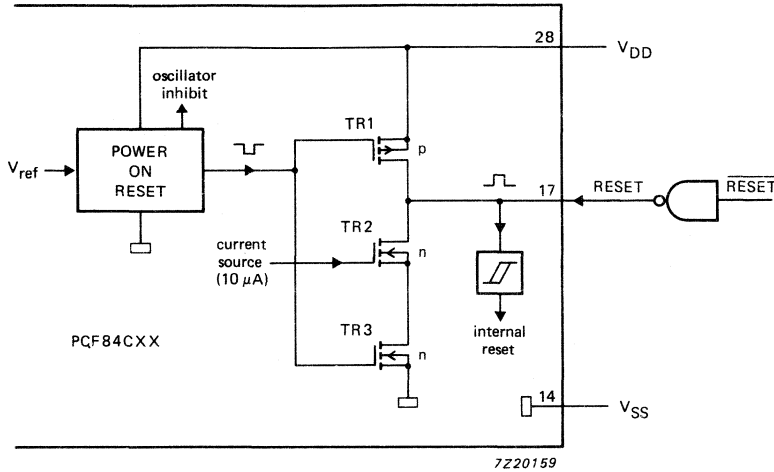
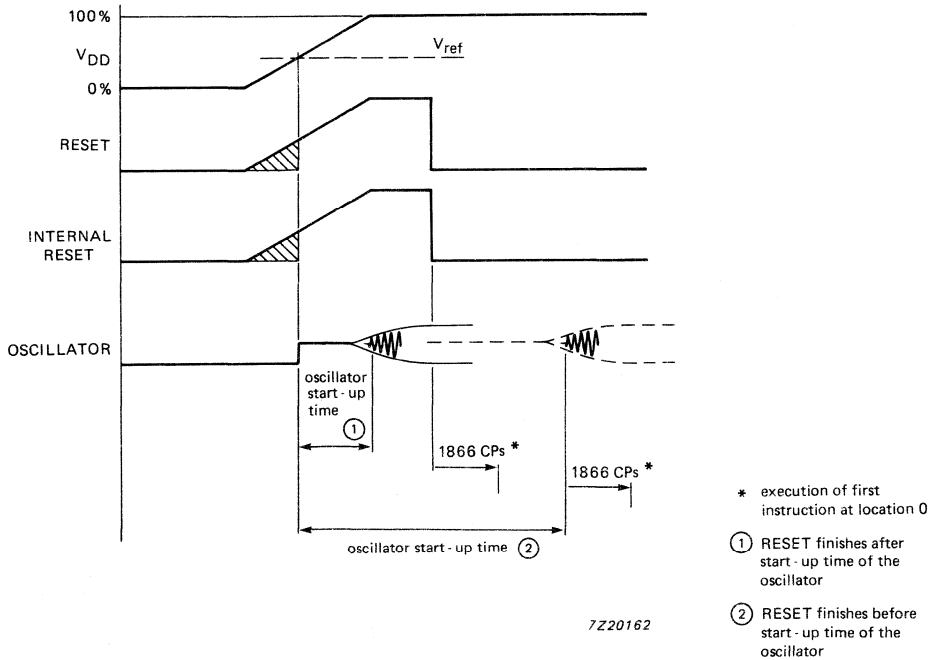

Fig. 27 External power-on-reset configuration.
Fig. 28 Timing of external power-on-reset.
3. Figure 27 shows an external reset to the PCF84CXX during power-on. The external reset signal must remain HIGH until  $V_{DD}$  has reached its minimum operating value corresponding to the selected oscillator frequency. When a reset is completed (RESET goes LOW) before the oscillator has started up, program execution begins after the oscillator start-up time plus 1866 clock periods have elapsed (see Fig. 28). If the oscillator is started-up prior to the completion of RESET, then program execution begins 1866 clock periods after RESET goes LOW.